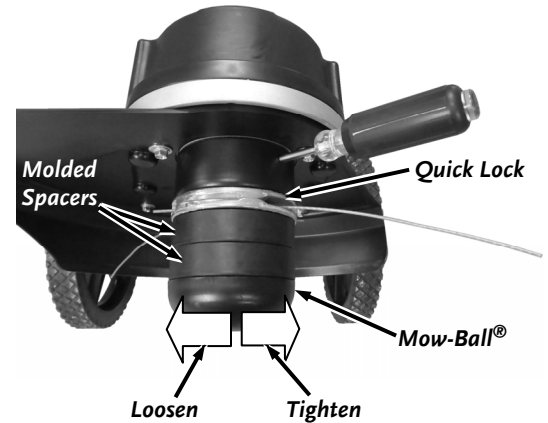

Figure 13
1. Align the hole in the Anti Wrap Canister with the hole in the internal housing at the location shown (**Figure 13**).
4. Looking up from the bottom of the Mow Ball®, hold the Bolt Head in place with your finger and turn the Mow-Ball® clockwise to start the Bolt into the Shaft (**Figure 13**).